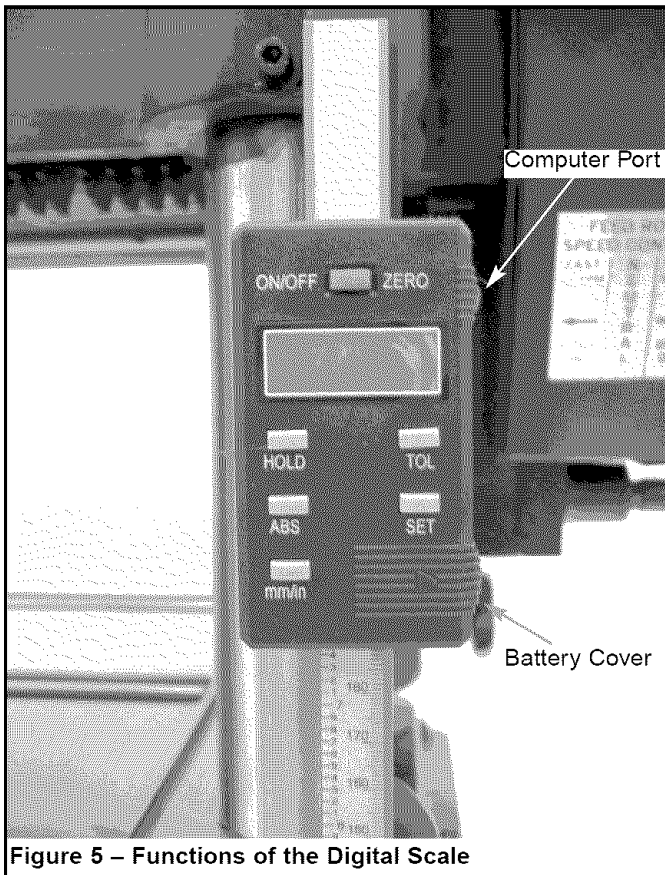

Figure 5 – Functions of the Digital Scale
Refer to Figure 5, page 8.
- Data from the digital scale can be input into a computer via the port at the side of the device. Simply slide off the small port cover (see Figure 5, page 8).